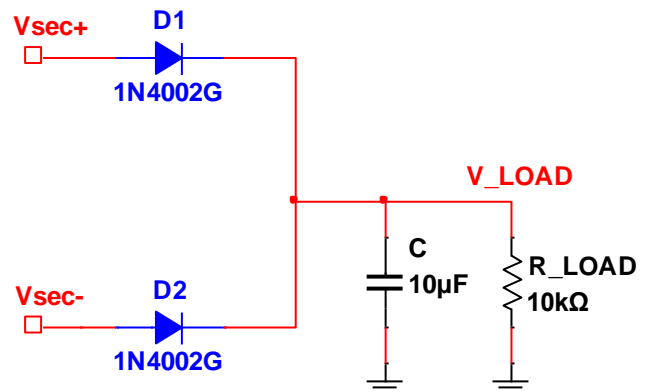

Fig. 5: Remember to properly insert the 10uF filter capacitor so that the (+) end of V\_LOAD and the (-) end is GND!
- Place a 10 uF electrolytic capacitor in parallel with the 10 kohm resistor (see Fig. 5).